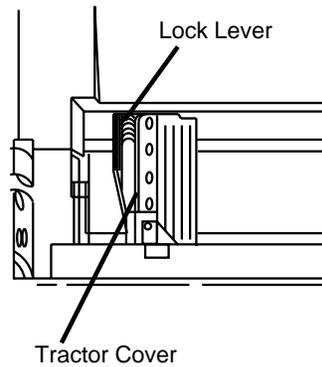

Figure 6-11. Model 602 Paper Lock Levers
- 11.5. Pull up on both of the lock levers to release the tractors, and swing open the tractor covers. See Figure 6-11. Position the right-hand tractor for the width of the paper you are loading.